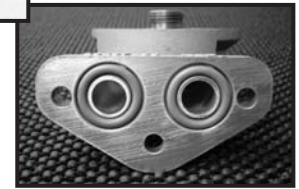

Fig.6 - Oil filter unit
- If necessary clean thoroughly, set aside and cover. *See Fig.6 for Engine "A"*